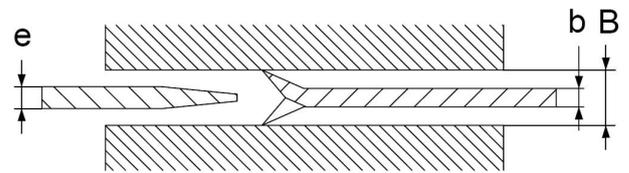

Fig.21
1. Riving knives shall be manufactured from steel with an ultimate tensile strength of 580 N/mm² or of a comparable material, have flat sides (within 0.1 mm per 100 mm) and shall have a thickness less than the width of a cut (kerf) and at least 0.2mm greater than the saw blade plate. As shown in **Fig.21**.